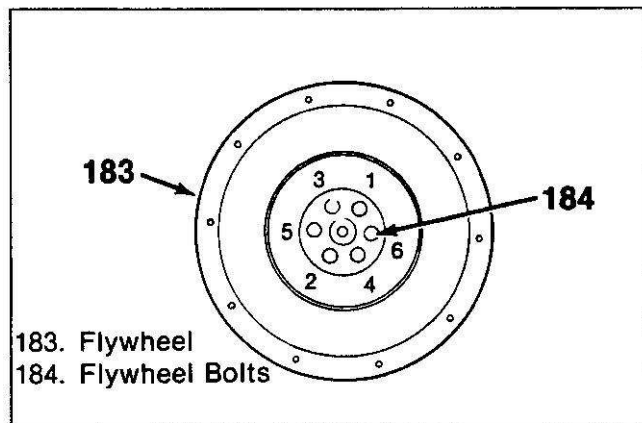
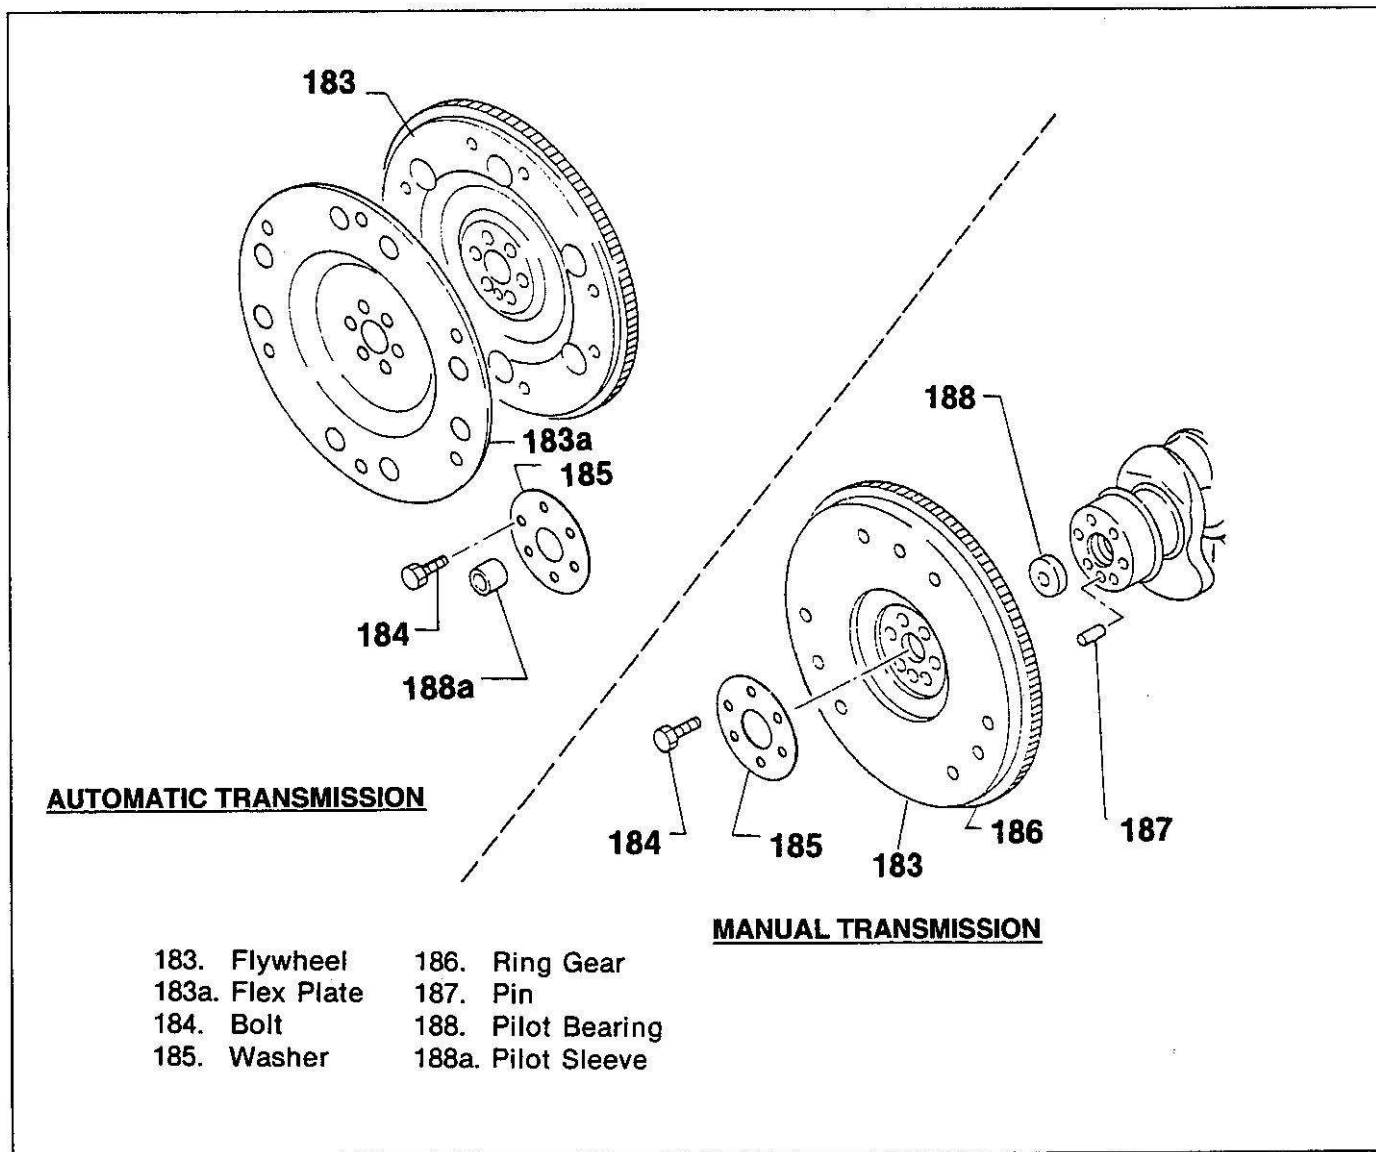

Figure 99. Flywheel Removal-Bolt Loosening Sequence
Figure 100. Flywheel and Attaching Parts
Remove or Disconnect (Figures 99 and 100)
2. Bolts (184).
- Loosen the bolts (184) in the sequence shown in figure 99.
- Remove the bolts (184).
3. Plate (185) (figure 100).
4. Flywheel (183).
Inspect (Figures 100 and 100a)
Install or Connect (Figures 99, 100 and 102)
align). Using the sequence shown in figure 99.
Install or Connect (Figures 99, 100, 103 and 104)
Install or Connect (Figures 100 and 103)